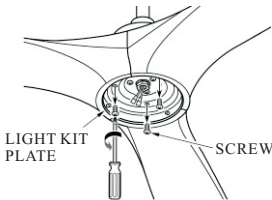

FIG.14
- 3. Remove the 3 screws from the light kit and keep it for future use.(See fig.14)